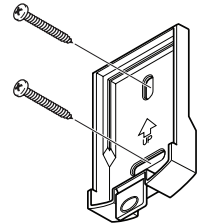

Figure 2
3. Use the two screws and wall anchors (provided) to mount the wall mounting plate to a solid surface (see Figure 2). Make sure there is enough vertical space above the mounting plate to allow the light fixture to be slid down onto the mounting plate.